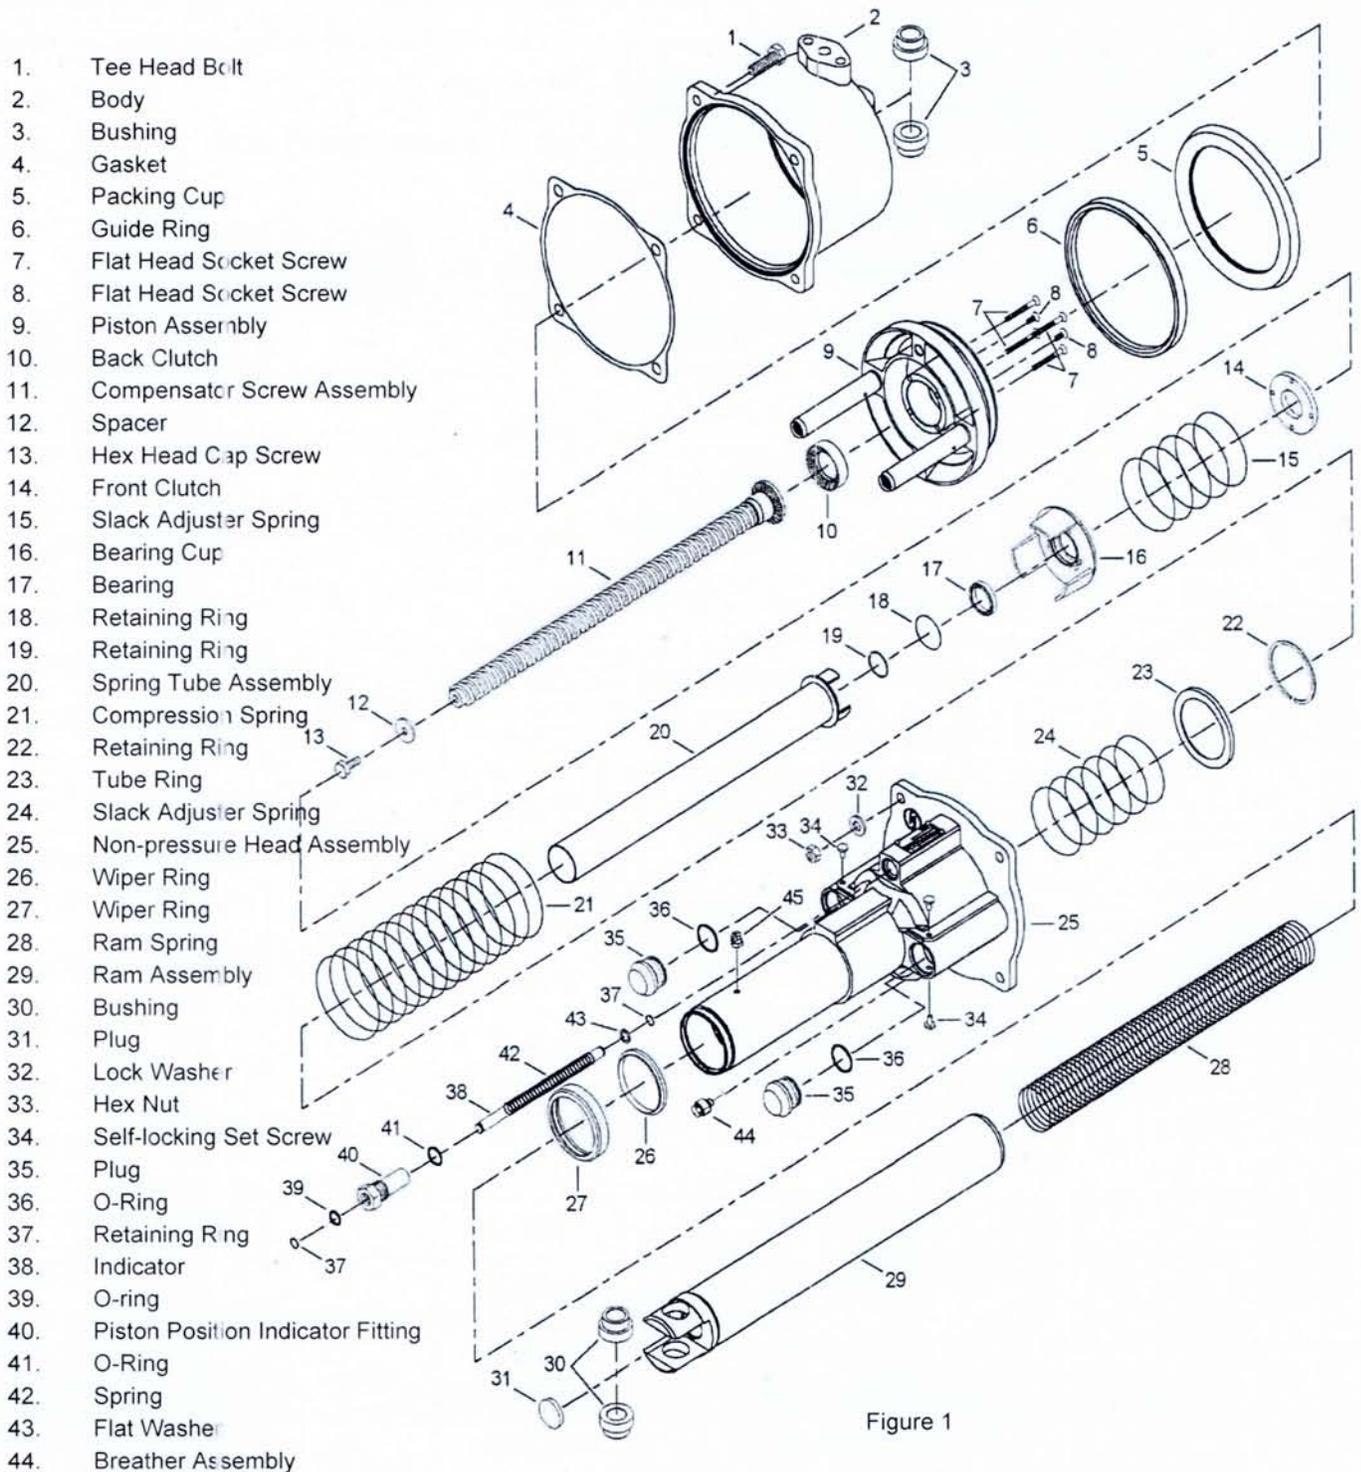

Figure 1
***Indicator assembly inclusive of items at position no. 37, 38, 39, 40, 41 & 42 as shown in Figure 1 below.